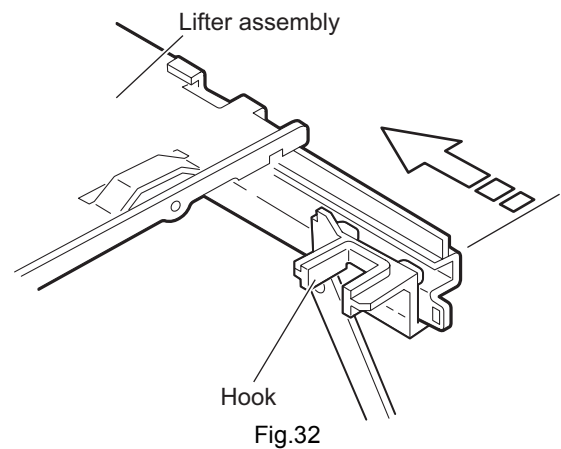

Fig.32
- (7) Move the lifter assembly in the direction of the arrow and release it from the hook. (See Fig.32.)